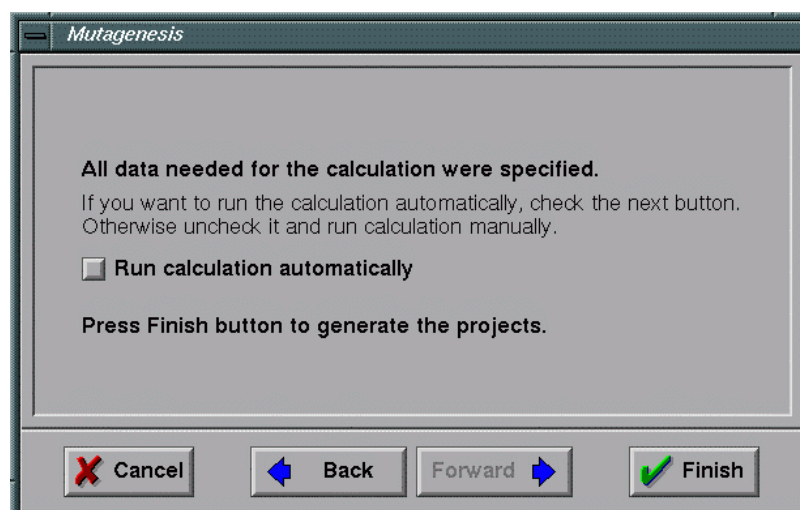

Fig 12.13 Window to finalize wizard mutagenesis
- 10) Finalize the mutagenesis project (**Fig 12.13**). All parameters necessary for calculation were entered and the user can either start the calculation on current computer or generate the input files, move them to another computer and run the calculation there. Press the *Finish* button to complete the wizard.
- Finish the preparation of calculation without making any changes in a ***.top*** file (**Fig 12.12**) and run the calculation automatically (**Fig 12.13**).